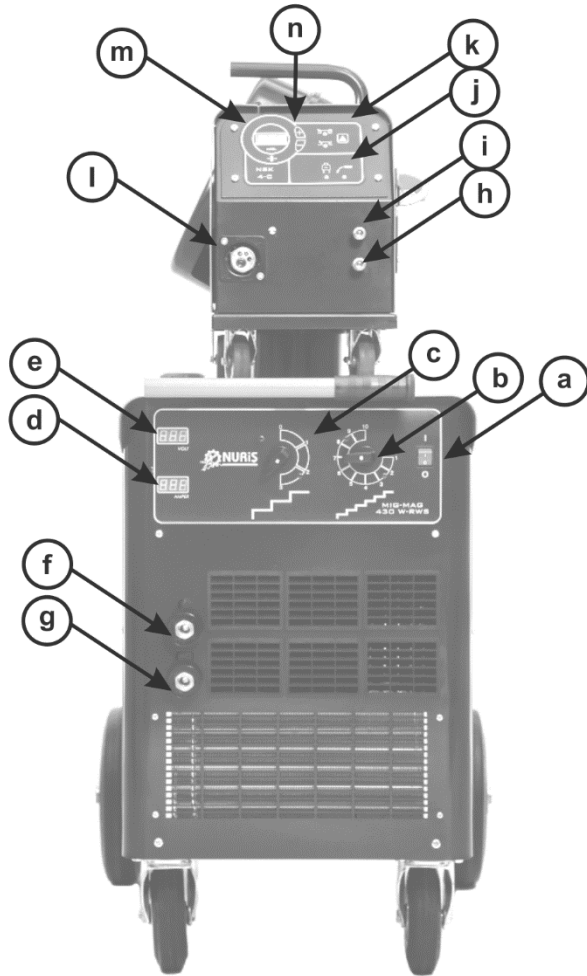

Figure 1, MIG 430W-RWS front view
Power transformer and DC rectifier group that provides the voltage and current required for welding. The user parts are (refer to Figure 1):
This unit feeds the welding wire through welding torch. These parts are (refer to Figure 1):
Connect the torch to the connector (Figure 1-l) and tighten the plastic screw gently for a proper connection.
Connect the cooling pipes of the torch to the quick couplings (Figure 1-h) and (Figure 1-i) in front of the wire feeder unit.
Connect the chassis cable into (Figure 1-f) or (Figure 1-g). The chassis cable should be connected to the workpiece in the lowest possible electrical resistance for a proper welding.
1. Adjust the desired welding voltage with fine (Figure 1-b) or coarse (Figure 1-c) range selection switches.
2. To turn-on the welder power unit, toggle (Figure 1-a) power switch to “On” position.
3. Check the selected voltage level from the display (Figure 1-e).
4. Check that power is supplied to wire feeder unit with power LED (Figure 1-j) on.
5. Using the wire speed screen (Figure 1-m) adjust the desired wire speed by using increment and decrement buttons (Figure 1-k).
6. The two trigger or four trigger torch mode can be selected by button (Figure 1-k). The selection can be seen with the relevant LED on the machine.
7. The welding current can be observed on indicator (Figure 1-d) during welding.
8. The torch trigger status can be observed by LED (Figure 1-j).